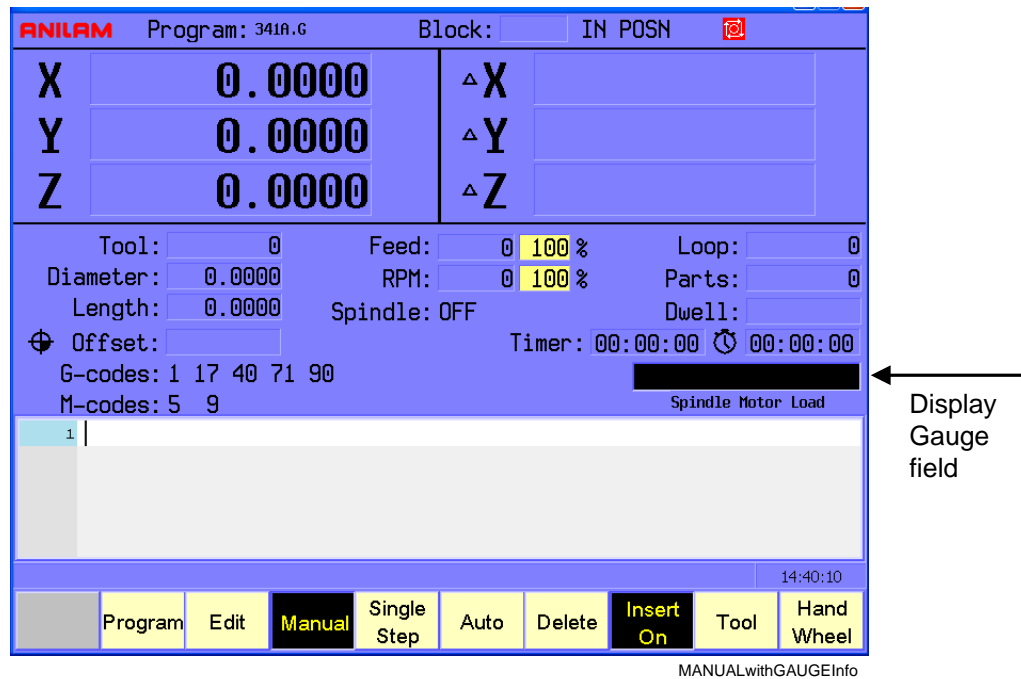

Figure 3-5, Manual Screen with Gauge Display
- Press the **Display Gauge (F1)** soft key to display the Gauge information on the Manual screen (refer to **Figure 3-5**). Refer to **Table 3-1**.